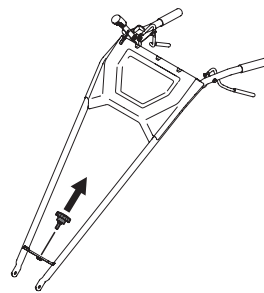

Figure 1
1. Remove the knob from the center of the lower end of the handle by rotating it counter-clockwise. See Figure 1.